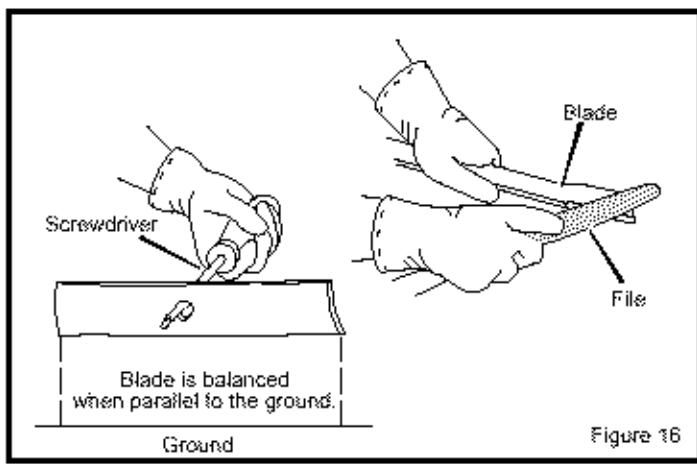

Figure 16
4. Sharpen the **blade** with a file (Figure 16). Make sure you keep the original bevel angle.
5. Make sure the **blade** is balanced. Use a screwdriver and hold the **blade** parallel to the **ground** (Figure 16). A **blade** that is balanced will stay parallel to the **ground**. If the **blade** is not balanced, the heavy end will rotate toward the **ground**. Sharpen the heavy end until the **blade** is balanced.